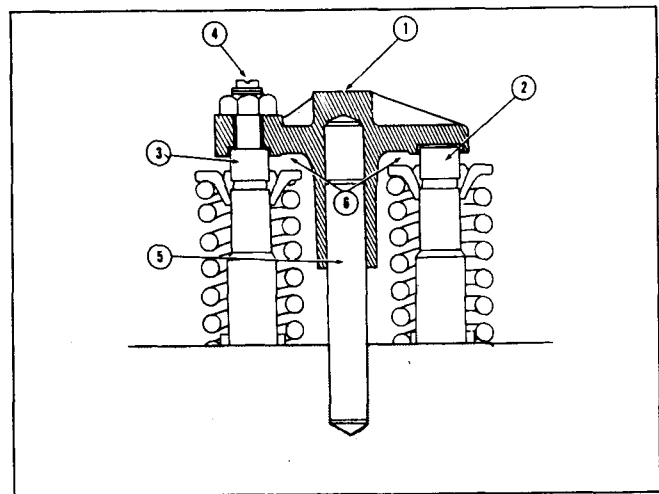

Fig. 2-56, (K21924). Valve crosshead
1. Loosen valve crosshead adjusting screw locknut and back off screw (4, Fig. 2-56) one turn.
1. Loosen adjusting screw locknut, back off screw (4, Fig. 2-56) one turn.
2. Use light finger pressure at rocker lever contact surface (1) to hold crosshead in contact with valve stem (2). Adjusting screw should not touch valve stem (3) at this point.
3. Turn down adjusting screw until it touches valve stem (3).
5. Check clearance (6) between crosshead and valve spring retainer with wire gauge. There must be a minimum of 0.025 inch [0.64 mm] clearance at this point.